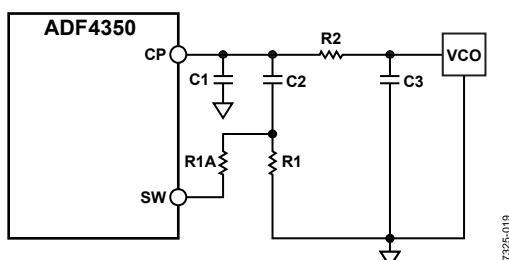

Figure 32. Fast-Lock Loop Filter Topology—Topology 2
- An extra resistor (R1A) is connected directly from SW, as shown in Figure 32. The extra resistor is calculated such that the parallel combination of an extra resistor and the damping resistor (R1) is reduced to $\frac{1}{4}$ of the original value of R1 (see Figure 32).